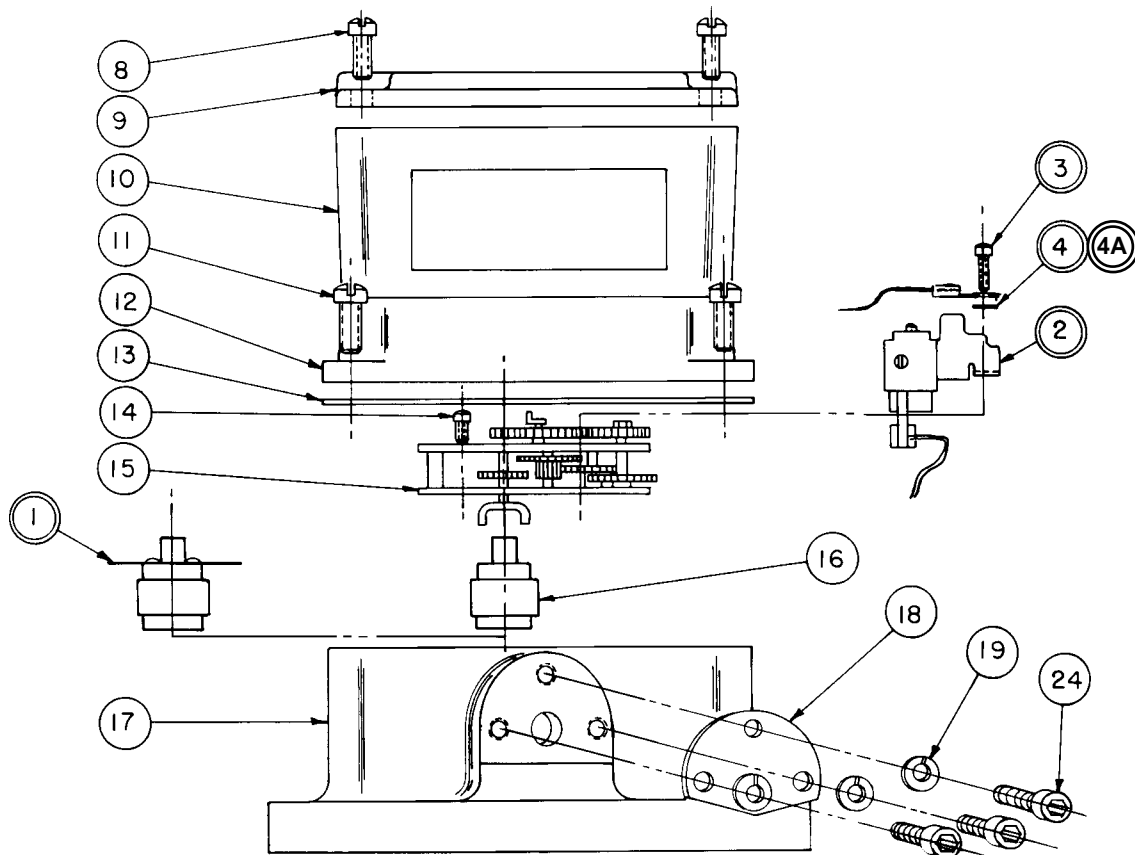
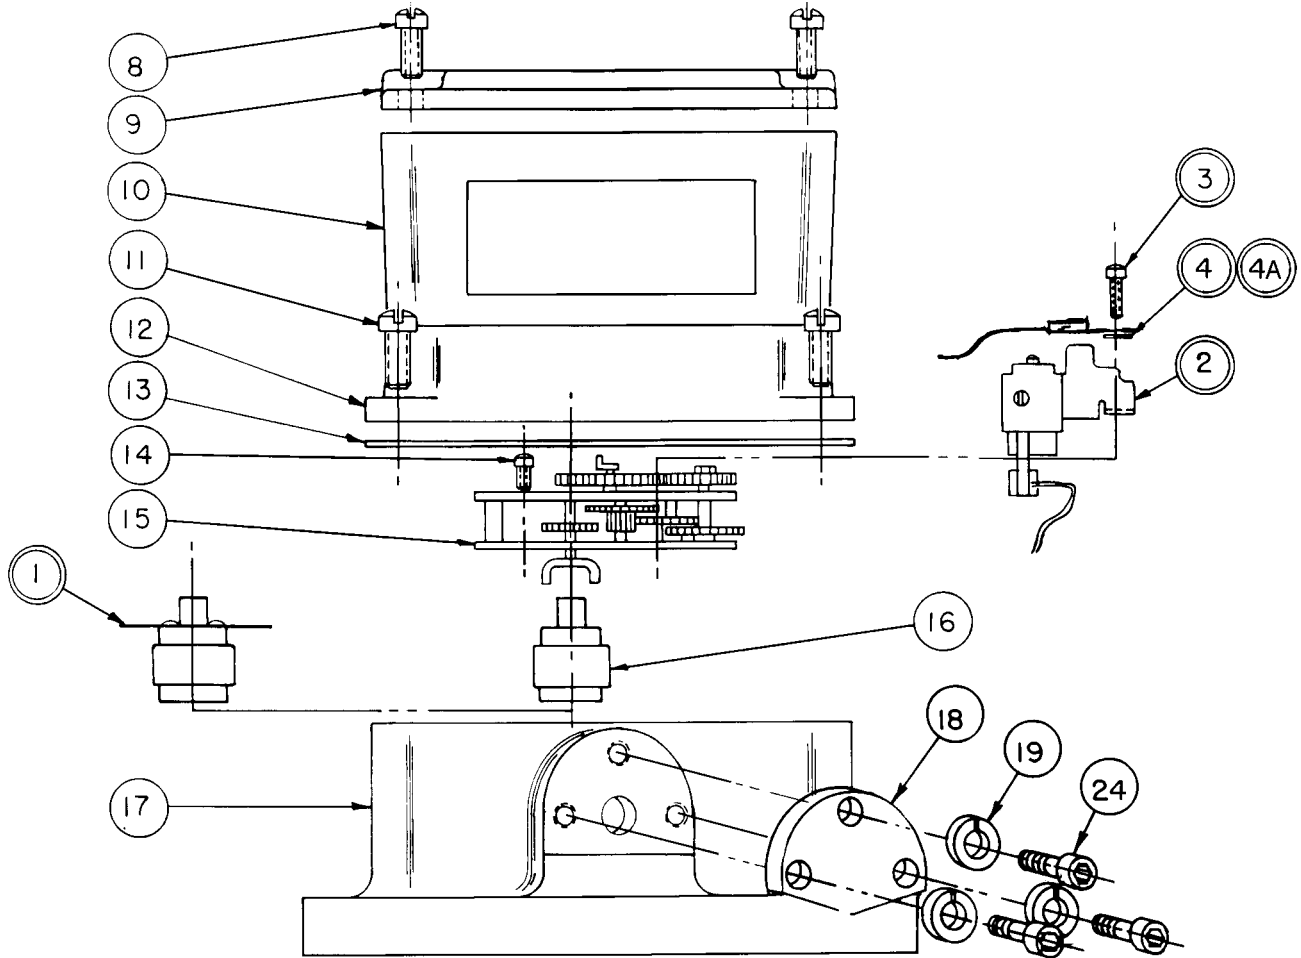

FIGURE 1
FIGURE 5
\* Refer to call-out number on drawings Figures 1, 2, 3, and 4 for conduit assembly, and Figures 5, 6, 7, and 8 for plug-in assembly.
### Disassembly (Refer to Figure 1 or 5)
### Reassembly (Refer to Figure 1 or 5)
- 5 **For Conduit Connector (Figures 1,2,3, and 4):**
- a. For top plates with three hold probe connection drilling: assemble the flange adapter (6A) with the three lock washers (19) and cap screws (24). Then insert the short end of the wire of the 1/2" NPT conduit/wire adapter (5A) through the probe hole and screw the connection tight.
### For Plug-in Connector (Figures 5,6,7, and 8):